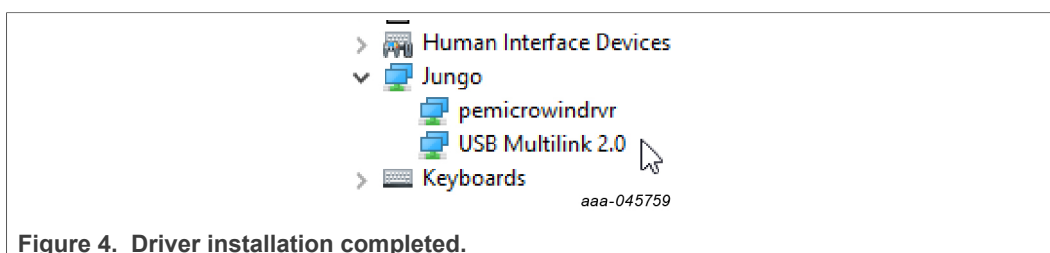

Figure 4. Driver installation completed.
5. Open **Device Manager** and determine whether the program successfully installed as expected as shown in Figure 4.